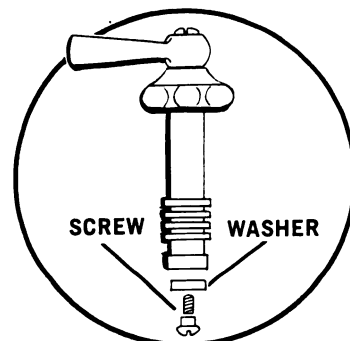

Fig. 4
3. Remove the screw holding the old washer at the bottom of the valve unit. (Fig. 4)